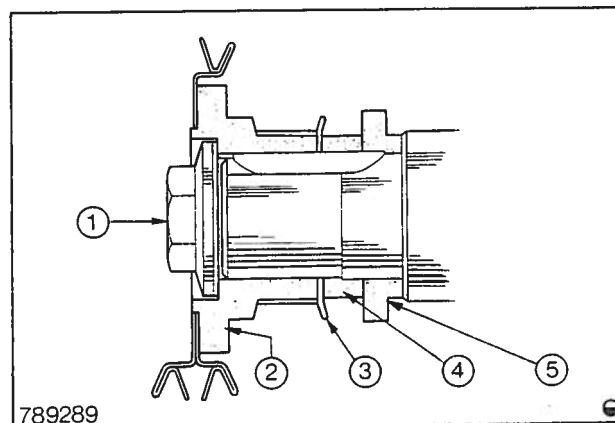

Fig. 36 Section through crankshaft front end
23. Apply an even coat of grease to specification EM-1C-B to the inside and outside diameters of the crankshaft spacer (Fig. 36). Fit the spacer. Apply an even coat of sealer EM-4G-47 to the rear face of the timing belt drive gear (three sheave crankshaft pulley) or to the rear face of the pulley hub and timing belt drive gear (two sheave crankshaft pulley) and fit it to the engine. In the case of engines with two sheave crankshaft pulleys apply a coating of EM-4G-47 to the rear of the crankshaft centre bolt. Fit the bolt and tighten to the specified torque (see Specifications).